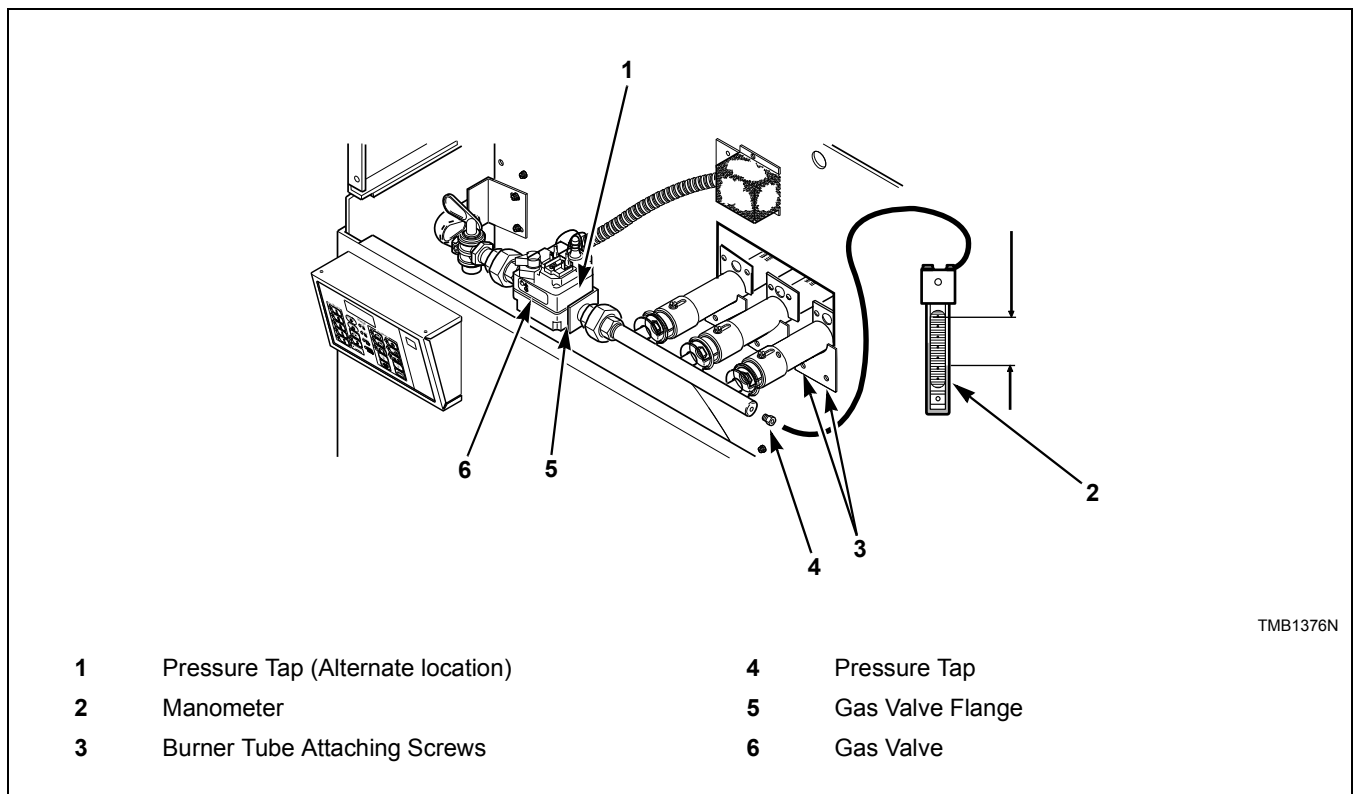

Figure 3
1. Check gas burner orifice (manifold) pressure as follows. Refer to *Figure 3*.